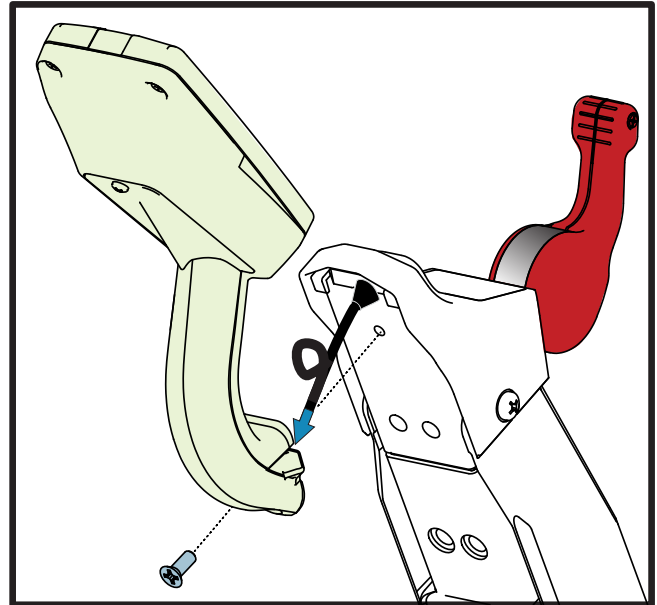

Figure 12. Attaching the Computer to the Handlebar Tube
2. Coil the computer cable into the computer mount cavity, refer to Figure 12.